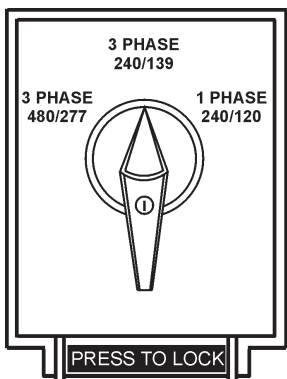

Figure 18. Voltage Selector Switch 3Ø-240/139V Position
1. Place the voltage selector switch in the 3Ø 240/139 position as shown in Figure 18..